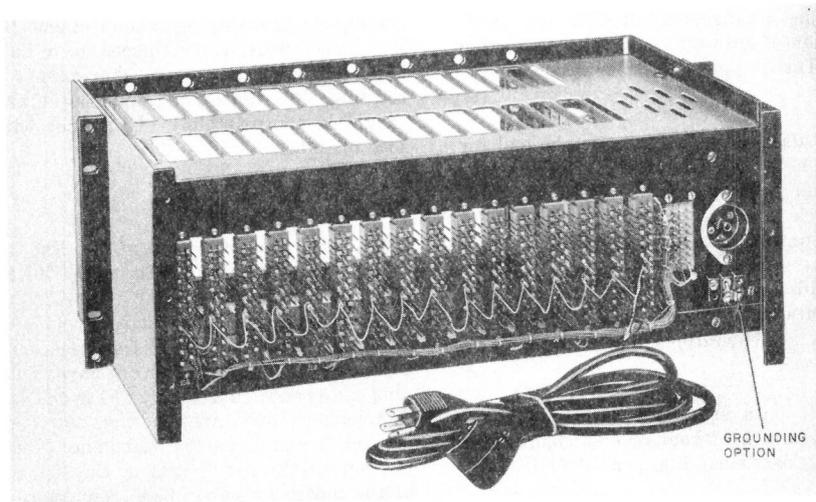

Fig. 2—Rear View of 39A1 Data Mounting
2.02 The 39A1 data mounting includes the necessary framework, wiring, and hardware to mount up to 8 data sets with reverse channel, or up to 16 data sets without reverse channel. All connections to the data sets (except power) must be made on wire-wrap terminals at the rear of the data mounting (Fig. 2). Each data set is inserted through guides in the top and bottom of the mounting into a 908C connector. The data sets are secured in the mounting by a retaining bar assembly which also serves as a labeling strip.